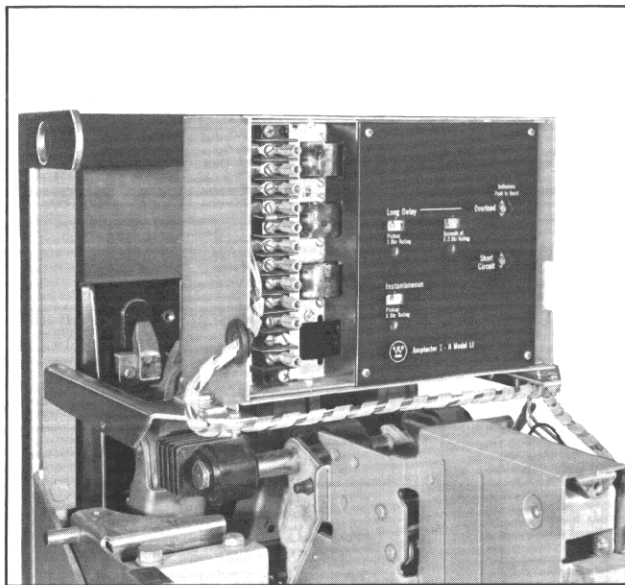

Fig. 10 *Ampdetector Mounted with Wiring Harness*
3. The Amptector is now mounted between the brackets using .25-20 x .5 fil. hd. screw, washers and the .25-20 threaded hole in the bracket, Fig. 10.
3. Slide the grommet over the front end of harness, connect colored wires to the Amptector per wiring diagram, then place grommet into split hole on the left side of Amptector. Attach the harness to the front of the Amptector using the nylon clamps and .164-32 x .50 mach. screws, nuts and washers, see Fig. 10.